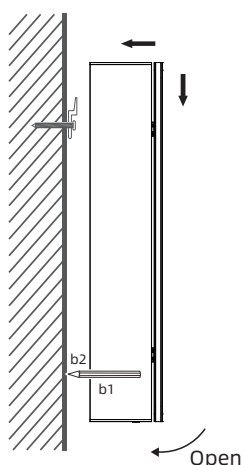

Fig. 3
- ① Attach the mirror cabinet to the bar as shown in Fig. 3, open the cabinet door, and mark on the wall (b_2) with a pencil through the backplane hole (b_1).
- ③ Repeat the operation as shown in Fig. 3 and mount the mirror cabinet to the bar, and then tighten the screws (Fig. 5).
- ④ Finally, turn on the main switch, and test if the switch works normally.